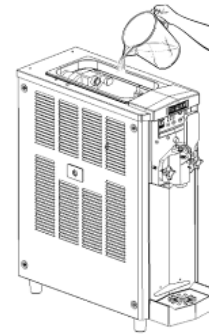

Fig. 62
- Pour the mix into the top tank (Fig. 62) and wait for it to flow into the freezing cylinder.